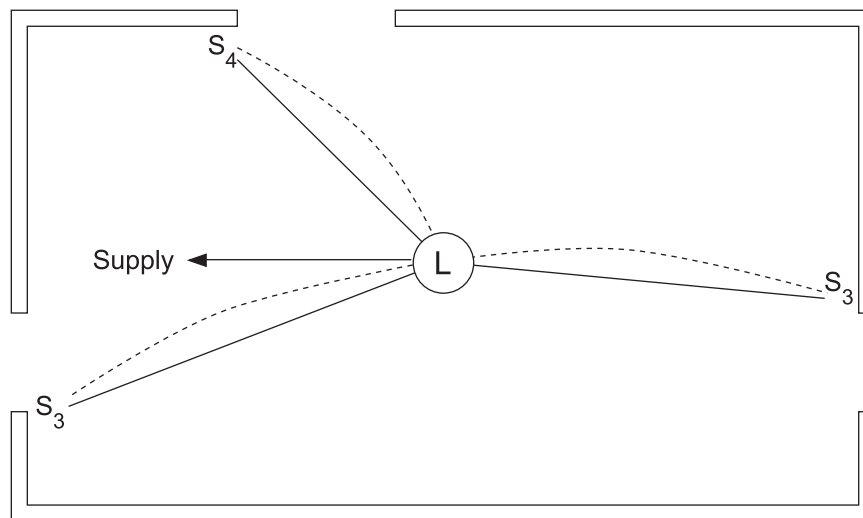

Figure 2
6. For the switching arrangement shown in Figure 2, how many wires would be needed in the cable runs between the: